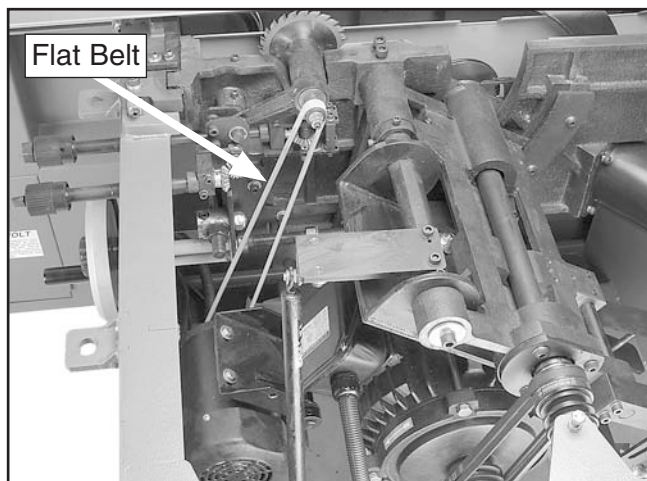

Figure 32. Flat belt installed on scoring motor and arbor pulley (table removed for clarity).
17. Install the flat belt on the scoring motor and arbor pulley as shown in **Figure 32**.